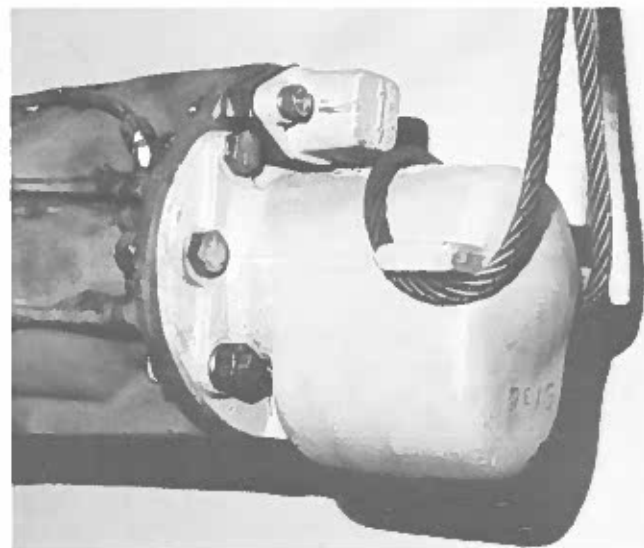

Figure 6 (A) — Hitching Line Under Lifting Lugs
5. Refer to Figures 6-A, 6-B and 6-C. Lift motor by 2 points while horizontal and elevate slowly to vertical position. Center the motor over the opening of the slip plate, then lower the motor to rest on the slip plate.